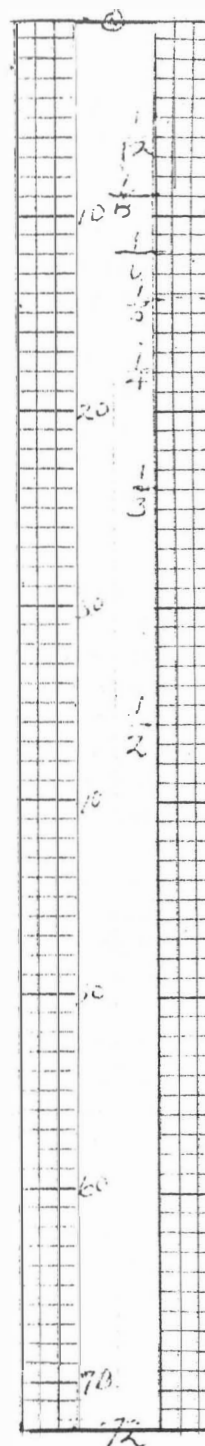

Figure 1.
3. That we adopt a ruler or measuring device which is made for the particular instrument and varies with the length of the centre line of each instrument. This ruler will be of the same length as the centre line and will be divided into 72 parts. It will be used to make all other measurements of the instrument. These other measurements will now all be expressed in number of parts (i.e., of the 72 parts). See Fig. 1.